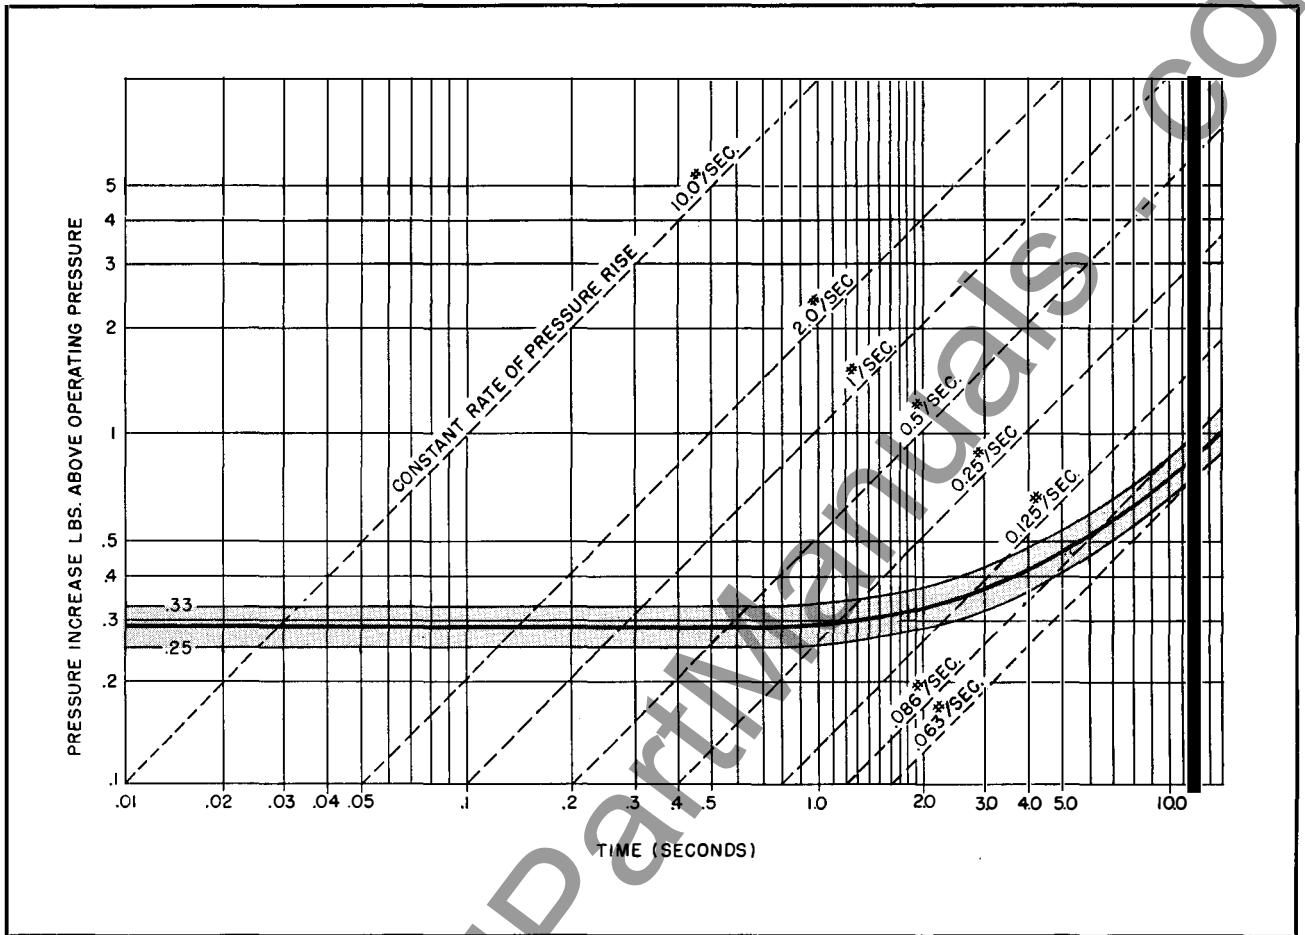

FIG. 4. Operating Characteristics of Sudden Pressure Relay.
The Sudden Pressure Relay as developed and tested, will accomplish the following: (See Fig 4).
2. It will operate on a minimum average rate of rise in pressure of .07 pounds per sq. inch per second as shown in Fig. 4 by the median line (provided the total pressure increase in the tank is at least 0.3 pounds per square inch). The shaded areas above and below the solid median line represent the operating range found in practice because of the tolerance on the pressure sensitive device setting. Fig. 4 shows the time required to operate, for rates of pressure rise from .07 pounds per sq. inch per second to 10 pounds per sq. inch per second.
Referring to Fig. 4, showing the operating characteristics of the sudden pressure relay, note that there are three variables: The rise in pressure in the tank (above operating pressure), the rate of pressure increase (per second), and the length of time required for the relay to operate.